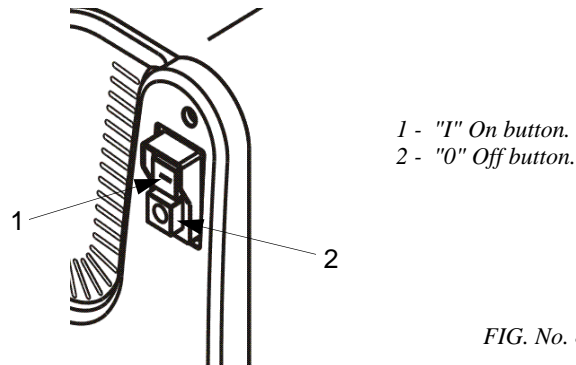

FIG. No. 8 - Control locations
The controls are located on the body of the machine as shown in FIG. No. 8.
5. Turn the machine on using the "I" button (ref. 1 - FIG. No. 8);
6. When finished, turn the machine off by pushing the "0" off button (ref. 2 - FIG. No. 8), then dismantle and carefully clean the hopper and all components (see Par. 6.2).